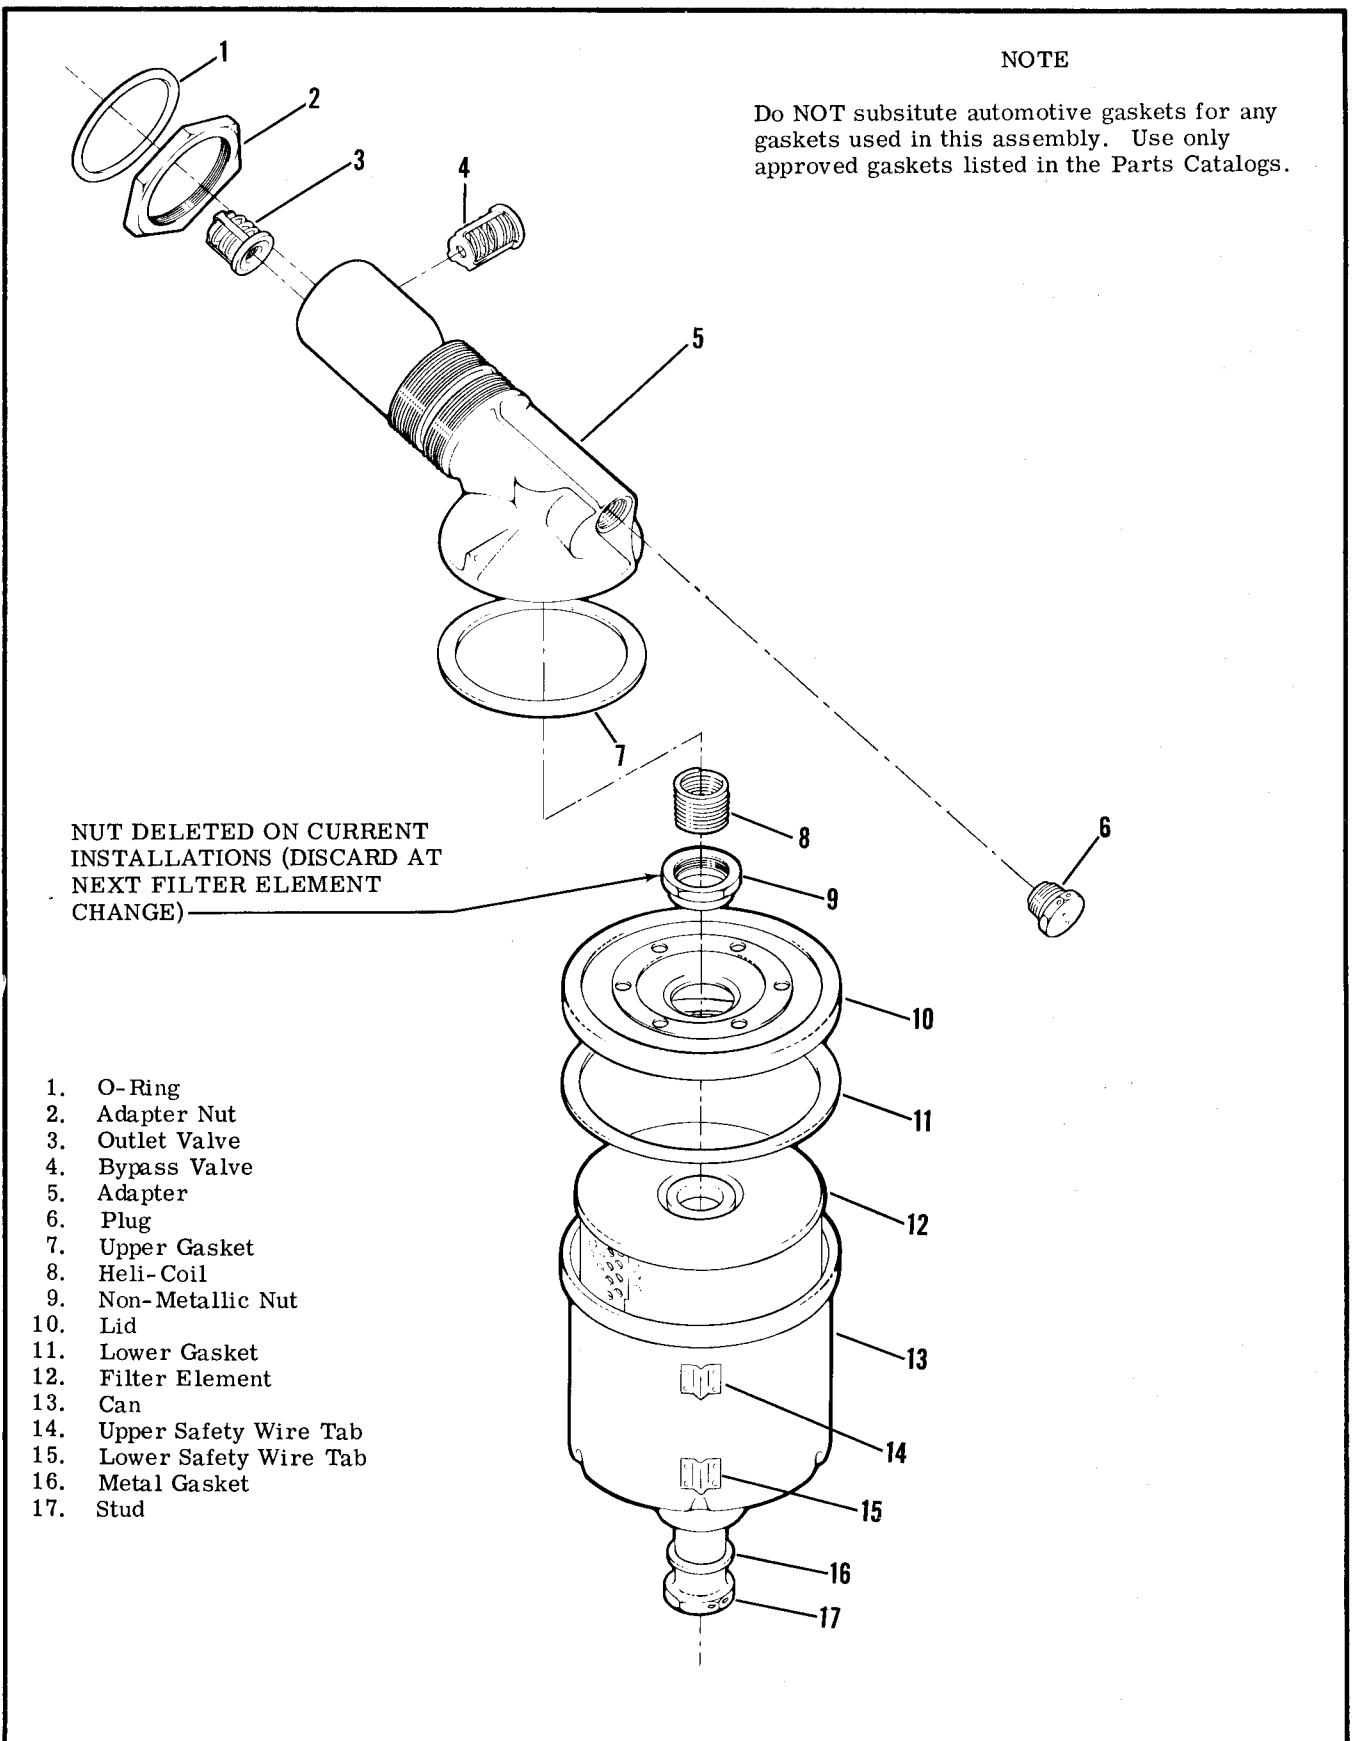

Figure 12-8. Full-Flow Oil Filter
**12-70. FILTER ELEMENT REMOVAL AND INSTALLATION.** (See figure 12-8.)
**12-71. ADAPTER REMOVAL.** (See figure 12-8.)
**12-72. DISASSEMBLY, INSPECTION AND ASSEMBLY.** Figure 12-8 shows the relative position of the internal parts of the filter adapter and may be used as a guide during installation of parts. The bypass valve is to be installed as a complete unit, with the valve being staked three places. A new helio-type thread insert in the adapter may be installed although special tools are required. Follow instructions of the tool manufacturer for their use. Inspect threads on adapter and in engine for damage. Clean
a. Assemble adapter nut and new O-ring on adapter in sequence illustrated in figure 12-8.